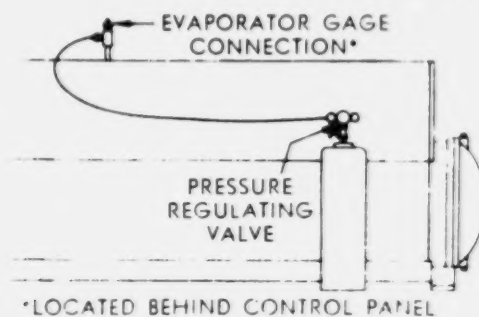

Figure 8. System Pressurizing
- ☐ Pipe a drum of R-113 to charging valve as shown in figure 8.
- ___ Connect a line to the oil charging valve. Figure 8.